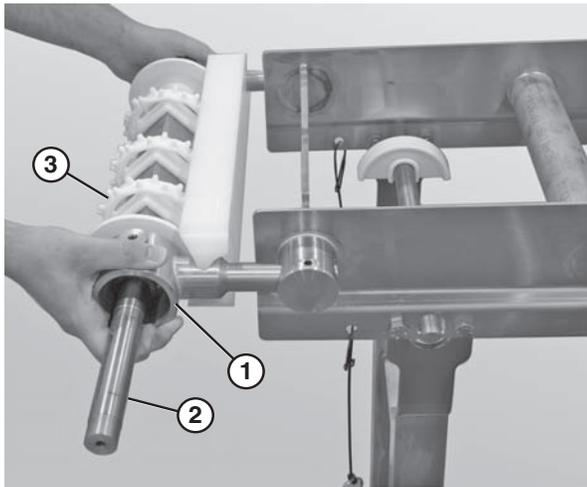

Figure 69
- Slide the drive tail assembly out of the take up blocks (**Figure 69**).
- Slide the motor support bracket (**Figure 69, item 1**) off the drive spindle (**Figure 69, item 2**).
- Remove the sprockets (**Figure 69, item 3**).